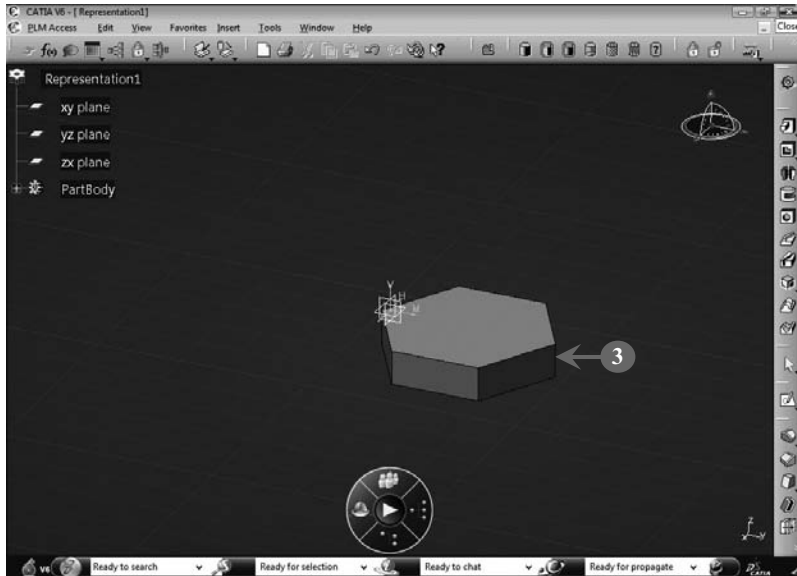

FIGURE 3.42
3. Create a solid model of the sketch by using the pad feature. The solid model created is shown in **Figure 3.42**: